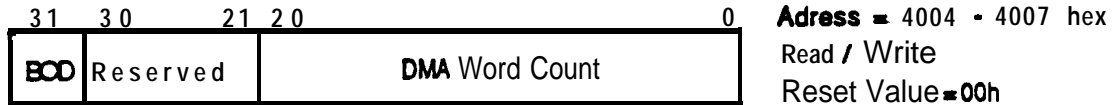

Figure 3.14 Channel 0 DMA Transfer Length Count Register
This register contains the number of words contained in the contiguous block of memory to be transferred via DMA. This register, like the address register, must be initialized before permission is given to the Eddy module to start the transfer. Setting the Most Significant Bit to One (1) will cause the present byte ordering to be overridden. Writing to this register while a DMA is pending or is in progress will produce unpredictable results. This register is shown in Figure 3.14.